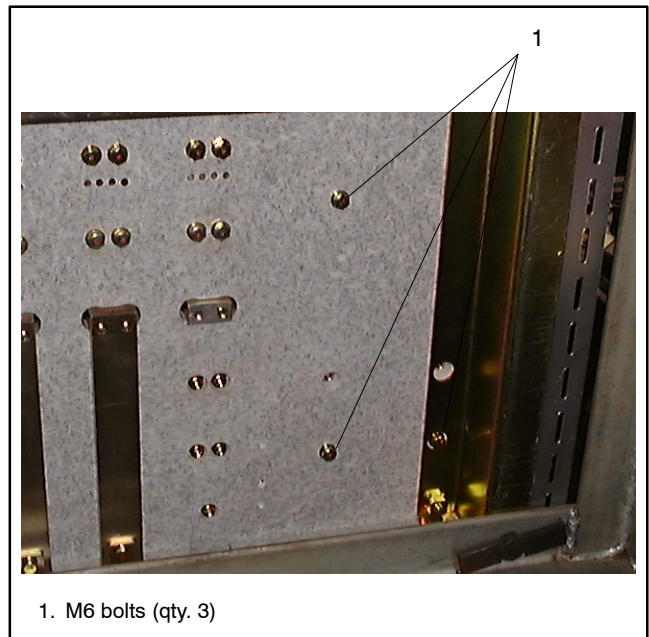

Figure 9-21 Remove M6 Bolts
3. Remove the M6 bolts (qty. 3). See Figure 9-21.